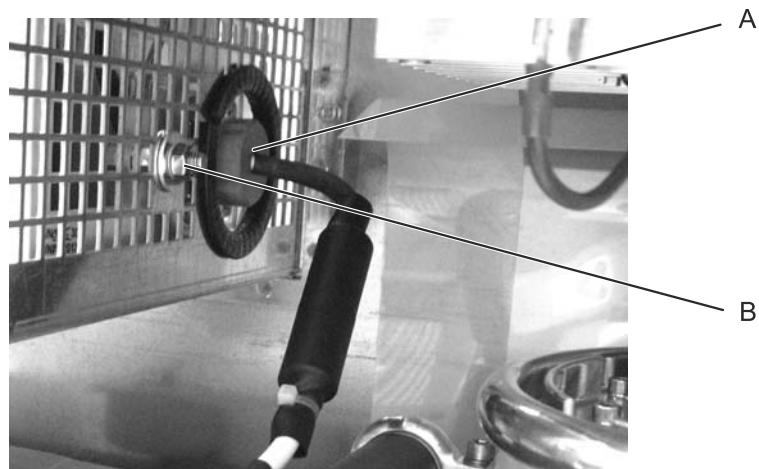

Figure 73: HV Power supply cable connection and grounding screw
6. Use the 11 mm wrench to unscrew the HV power supply grounding screw (see Figure 73, B).
7. Unscrew the grounding screw and disconnect the HV power supply cable from the HV power supply (see Figure 73, A).